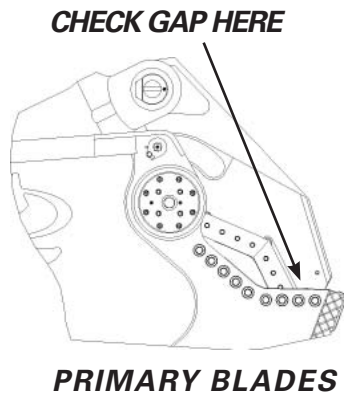

FIGURE 5-18
1. To check for blade gap, close the shear until the secondary blades in the upper and lower shear begin to bypass (see **Figure 5-18**). Start with the thickest shims and check to see how many shims can be slipped between the blades and record this amount. Another method is to use a feeler gauge to check the blade gap and record it.